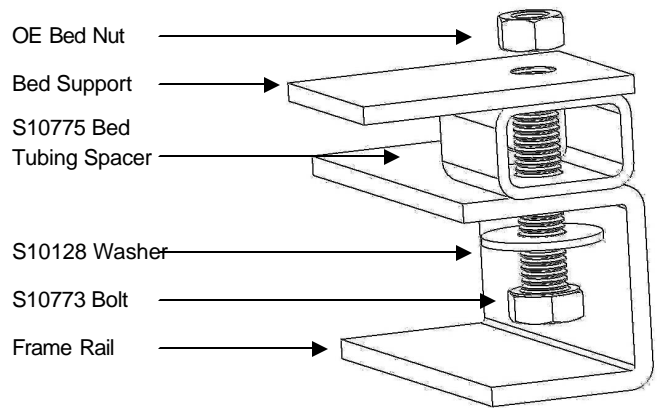

Figure 3.
2. Raise the bed on the side you have removed the bolts from just far enough to install the rectangular steel tube bed spacers and start the new supplied 12mm bolts. The bolts on the opposite side will help ensure that the bed does not shift. See figure 3.